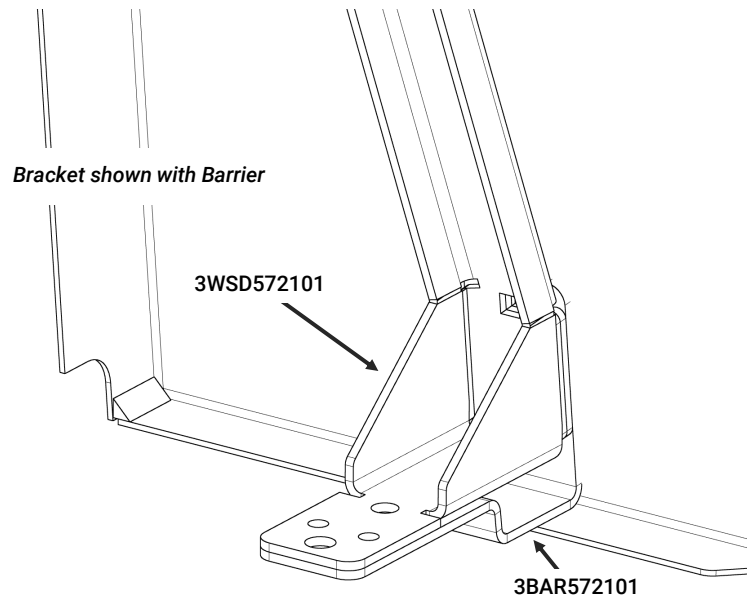

Figure 4
- E. Repeat steps A. - D. for the passenger side using the Passenger Rear Storage Drawer Bracket [3WSD572102] and another (1) M10 socket cap screw [3X254].
- A. Locate the Driver Front Storage Drawer Bracket [3WSD572101] and orient it according to the position identified in section III. If installing with a Barrier, this is on top of the driver side Lower Barrier Bracket [3BAR572101] (Fig. 4).
- B. If installing with a Barrier, use a 3/8" socket to remove the two self-drilling fasteners [3X162] and use an 8mm hex key to remove the M10 bolt [3X254] from the Lower Barrier Bracket. Then use a 7/16" socket to remove the (2) 1/4" whiz nuts [3X16Z] that are holding the Lower Barrier Bracket to the Barrier.
- C. Place the Driver Front Storage Drawer Bracket into position and loosely secure with (1) M10 bolt [3X254]. If installing with a Barrier, loosely secure with the M10 bolt as well as the (2) 1/4" whiz nuts that were removed in the previous step - the 1/4" bolts will go through the Barrier, the Lower Barrier Bracket, and the Storage Drawer Bracket.
- D. Repeat steps A. - C. for the passenger side using the Passenger Front Storage Drawer Bracket [3WSD572103] and (1) M10 bolt [3X254] if necessary.